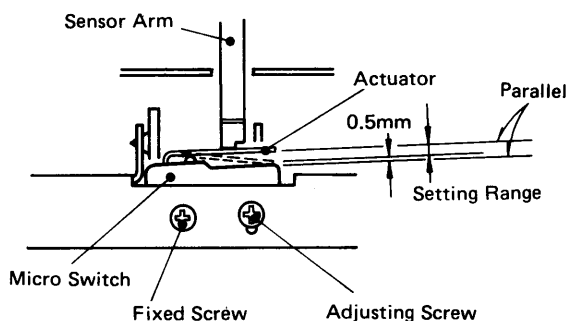

Fig. 6-4-1
- 1) First, loosen two microswitch mounting screws and adjust the mounting position of the switch so that the microswitch actuator is positioned within the setting range(s) as shown for the switch actuated on or off in Fig. 6-4-1. After completion of the adjustment, actually load the tape deck with a blank tape, and check for correct adjustment.